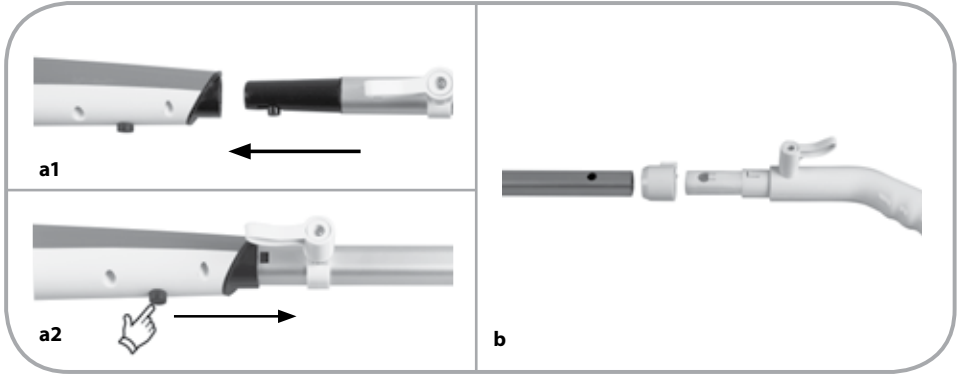

fig.1
- Assemble the appliance according to **fig.1**, and then insert the appropriate tool.